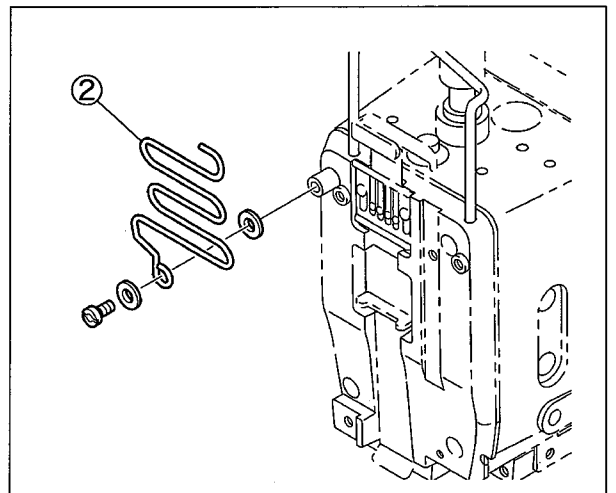

Fig. 2
Install the tape guide (upper) ② onto the head cover by referring to Fig. 2.